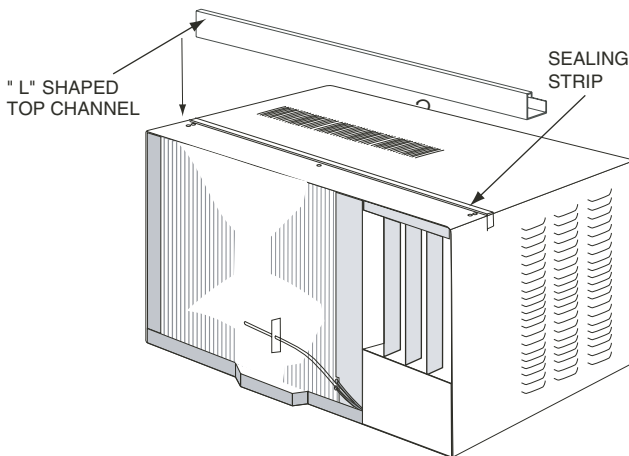
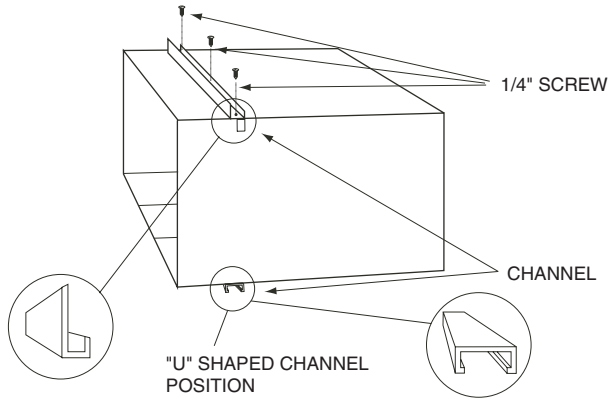

FIGURE 6 — TOP CHANNEL LOCATION
FIGURE 7 — TOP AND BOTTOM CHANNEL INSTALLATION
7. Cut sealing strip (provided) to match length of top channel. Save remaining seal strip for use in Steps 14 and 22. Peel and stick one side of the sealing strip on to the top channel (provided) as shown in Fig. 6. Use 1/4-in. screws (provided) to attach top channel to cabinet. Top channel may require 4 or 5 screws depending on model. See Fig. 7.
8. Attached the bottom channel (provided) to the bottom of the cabinet. Use four 1/4-in. screws (provided). Screws are installed from the inside of the cabinet to the outside to attach the bottom channel. See Fig. 7.